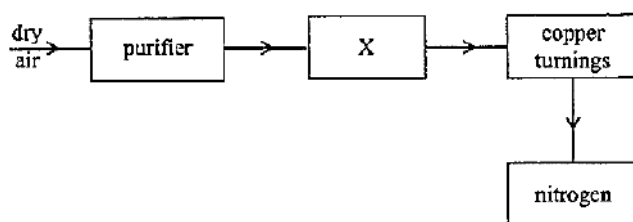

Figure 3
The flow chart in **Figure 3** shows the process of obtaining a sample of nitrogen gas. Study it and answer the questions that follow.
Figure 3 is a flow chart that shows the process that occurs in the manufacture of nitric(V) acid.